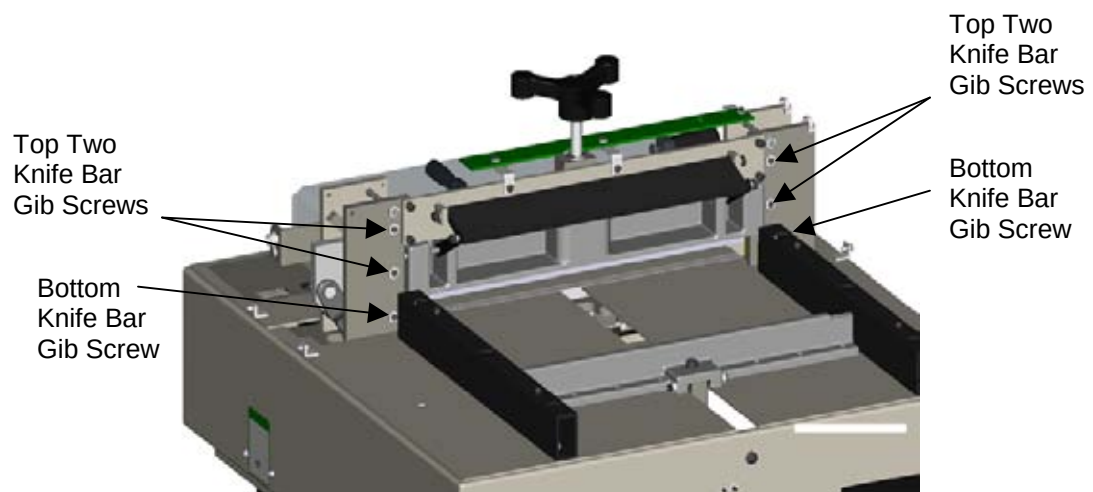

Figure 9
3. Loosen the gib screw jam nuts on the TOP TWO GIB SCREWS ONLY on each side (Figure 9).